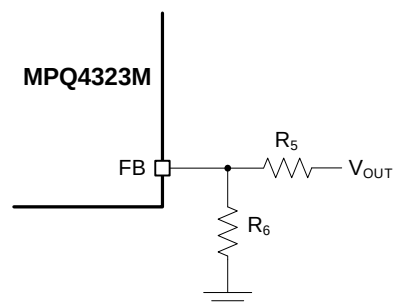

Figure 6: FB Divider Network (Adjustable-Output Version)
The feedback (FB) voltage (V_{FB}) is typically 0.8V, and its output can be adjusted. The external resistor divider connected to FB sets V_{OUT} (see Figure 6).